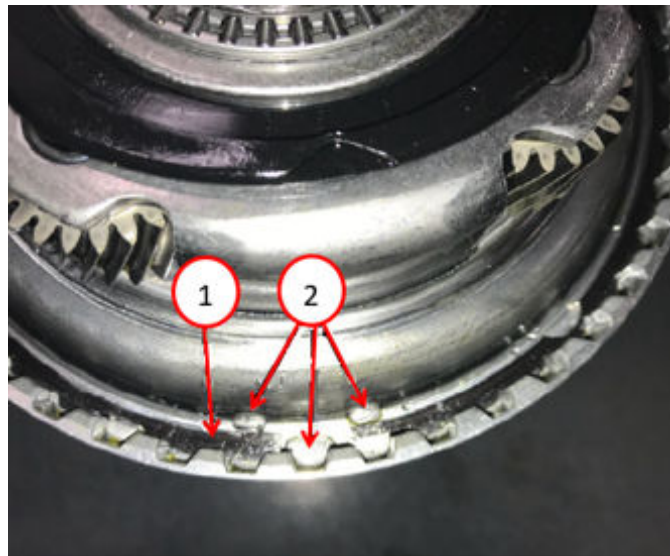

Fig. 31
45. Install the snap ring in the orientation shown (snap ring will only install one way) with the locating tabs Fig. 31.